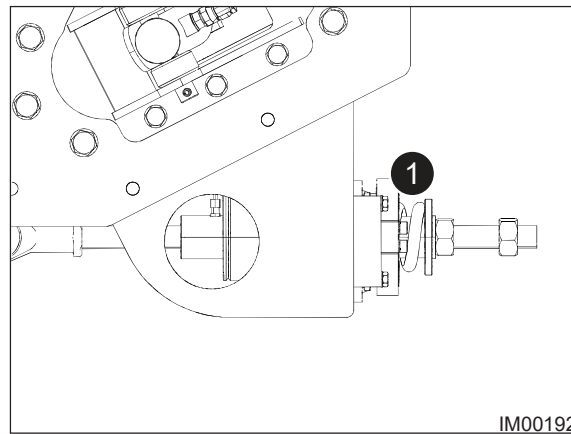

Fig: 7.20 - Locking Nut
11. Only allow the tension rod (Item 1, Fig: 7.20) to move away 38mm (1.5 inches) from the seating block.